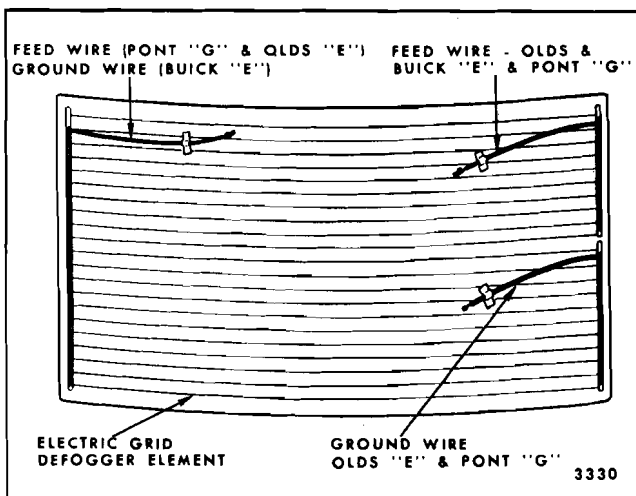

Fig. 4-1—Back Window Electric Grid Defogger (View From Inside Looking Rearward).
3. On styles equipped with rear window electric grid defogger (heating elements in glass), disconnect wire harness connectors located at right and left upper inside corners of glass from connectors located behind quarter upper trim panels. On Pontiac "G" and Oldsmobile "E" styles, also disconnect wire connectors at lower left inside corner of glass. If glass is to be reinstalled, tape leads to inside surface of glass to protect them during handling (See Figure 4-1).